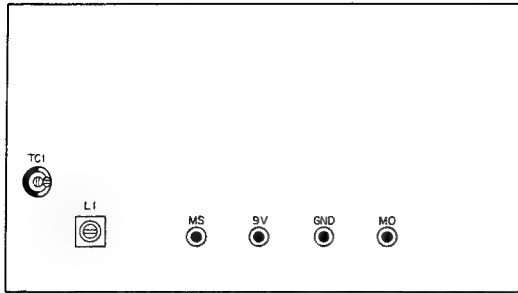

Fig. 29 MARKER unit
- 2) Set the FUNCTION switch to CAL 25 kHz and adjust TC1 in the marker unit for 100,000 Hz  $\pm$  1 Hz (refer to Fig. 29).